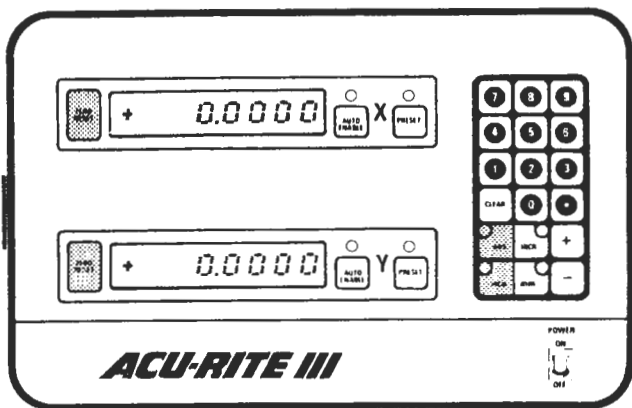

Figure 3-5. Console Status: Zero Reset
- Push the ZERO RESET keys for each axis to zero the absolute mode. Plus sign and zeros will be displayed (see Figure 3-5).
- Push the ZERO RESET keys for each axis again to zero the incremental mode, and plus zeros will be displayed (see Figure 3-5).